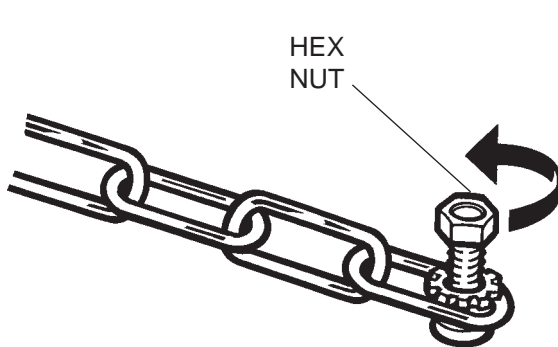

Figure 4 – loosening the hex nut
1. Loosen the hex nut at the unattached end of the safety chain, until it is flush with the screw end. Do not remove it completely. (Figure 4)